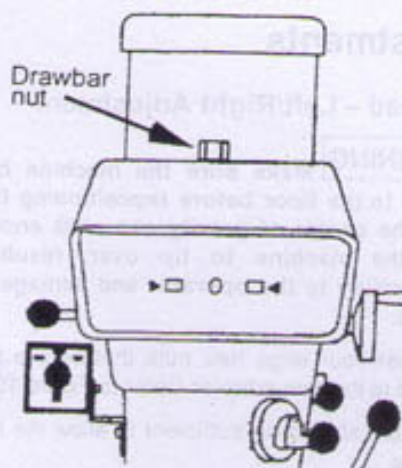

Figure 17
- Using the wrench provided with the machine, loosen the draw bar two or three turns (turn counterclockwise) using the draw bar hex (Figure 17).